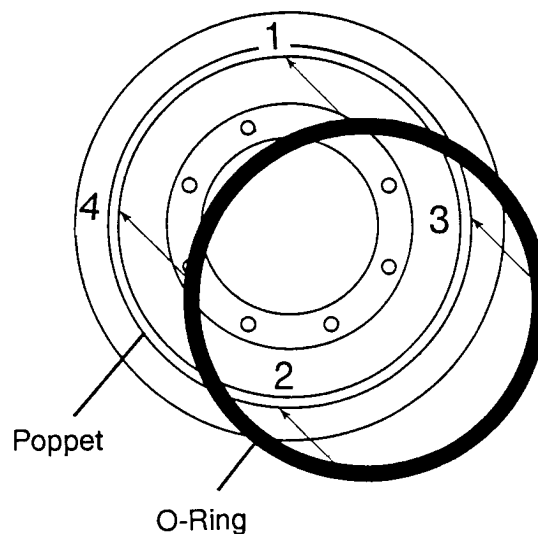

Figure 4-8. Poppet O-Ring Installation
4. Lubricate the poppet valve o-ring and fit it onto the groove in the poppet valve. It is recommended that the o-ring be pressed into the groove in places  $90^\circ$  apart to help eliminate any twisting or stretching. See Figure 4-8. Care must be taken when working the seal into the poppet groove as the seal may stretch and not seat correctly. The use of a smooth plastic tool may assist in working the seal into the poppet groove. Working the seal on opposite sides of the groove every few inches will assist in proper installation. **Use care to prevent damage to the o-ring.**
2. Lubricate the poppet valve o-ring and fit it onto the groove in the poppet valve. It is recommended that the o-ring be pressed into the groove in places 90° apart to help eliminate any twisting or stretching. See Figure 4-8. Care must be taken when working the seal into the poppet groove as the seal may stretch and not seat correctly. The use of a smooth plastic tool may assist in working the seal into the poppet groove. Working the seal on opposite sides of the groove every few inches will assist in proper installation. **Use care to prevent damage to the o-ring.**